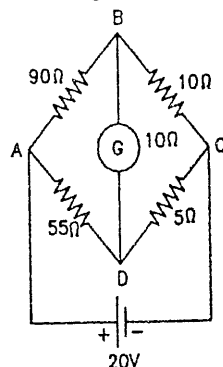

FIG. 1.190 : REFERENCE FIGURE FOR PROBLEM NO. 13
13. In the Wheatstone bridge shown in Fig. 1.190 the galvanometer of $10\ \Omega$ is connected across BD. Using Thevenin's theorem, calculate the current through the galvanometer. [17 mA]